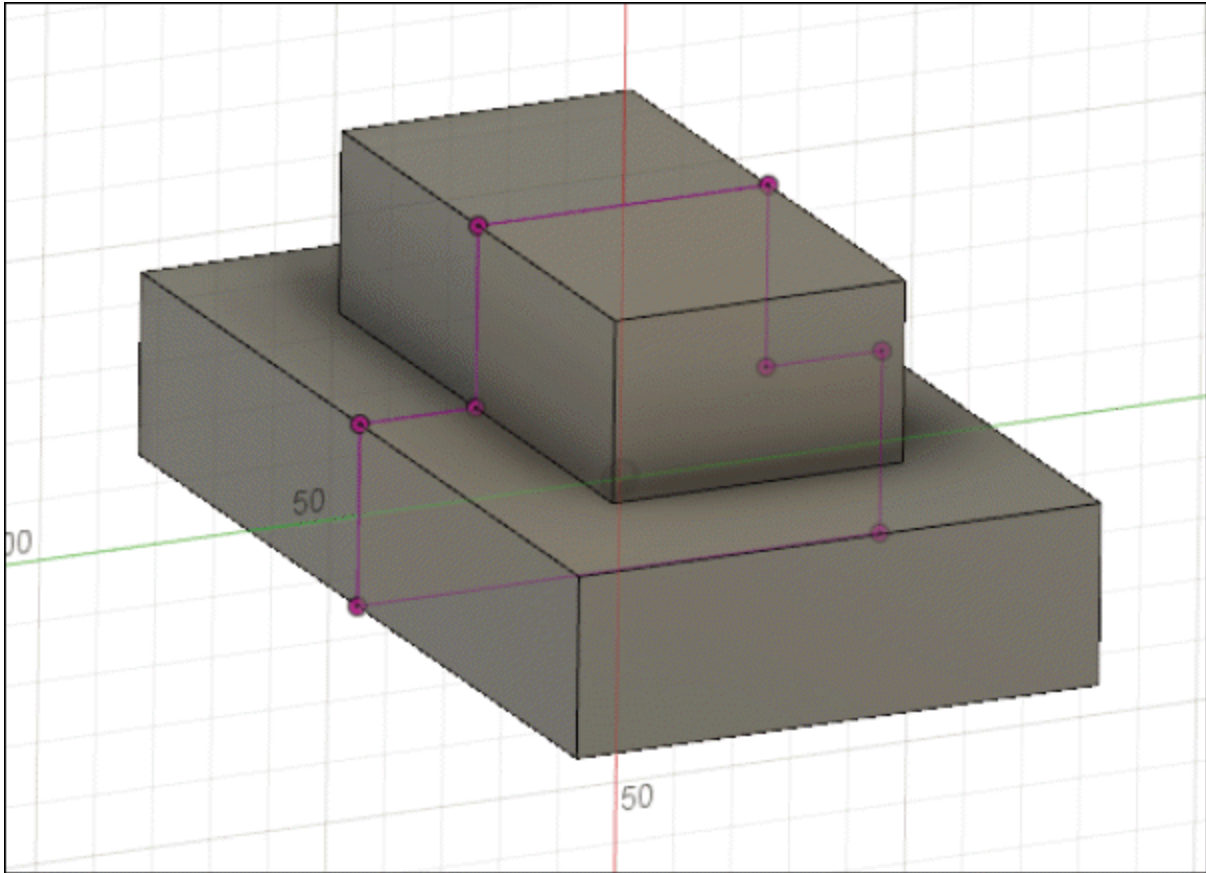

Figure-149. Intersection curves generated
- On selecting the objects that are intersecting with current sketching plane, a preview of the intersection curve will be displayed. Click on the **OK** button to create the generated curves; refer to Figure-149.